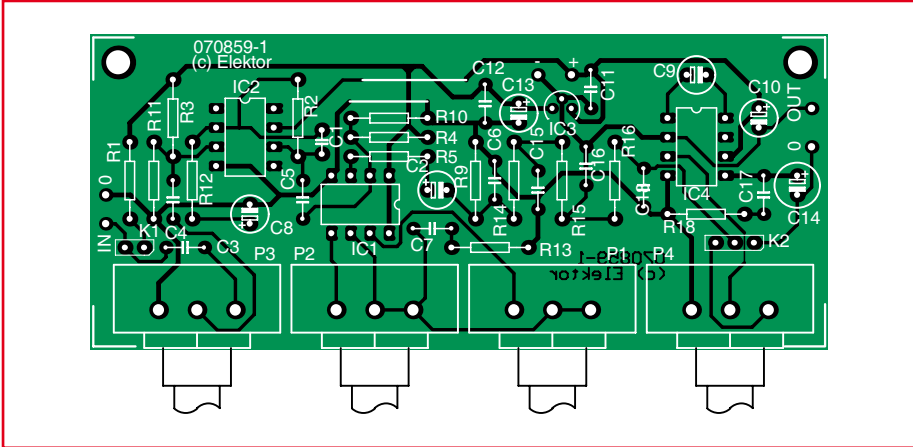

Figure 4. A small PCB has been designed for the voice changer, which makes the construction very easy.
Figure 4 shows the board layout for the voice changer. Populating the board should be simplicity itself, with all components clearly laid out. The controller can be obtained ready-programmed from Elektor Shop as item 070859-41. If you prefer, you could program it yourself (software 070859-11, but make sure you use the correct settings for programming the chip, as shown in the inset). If you use an electret microphone you'll need to place a jumper across K1. The jumper on K2 selects the type of output signal (pins 2-3 uses the output amplifier, pins 1-2 for a line output signal).